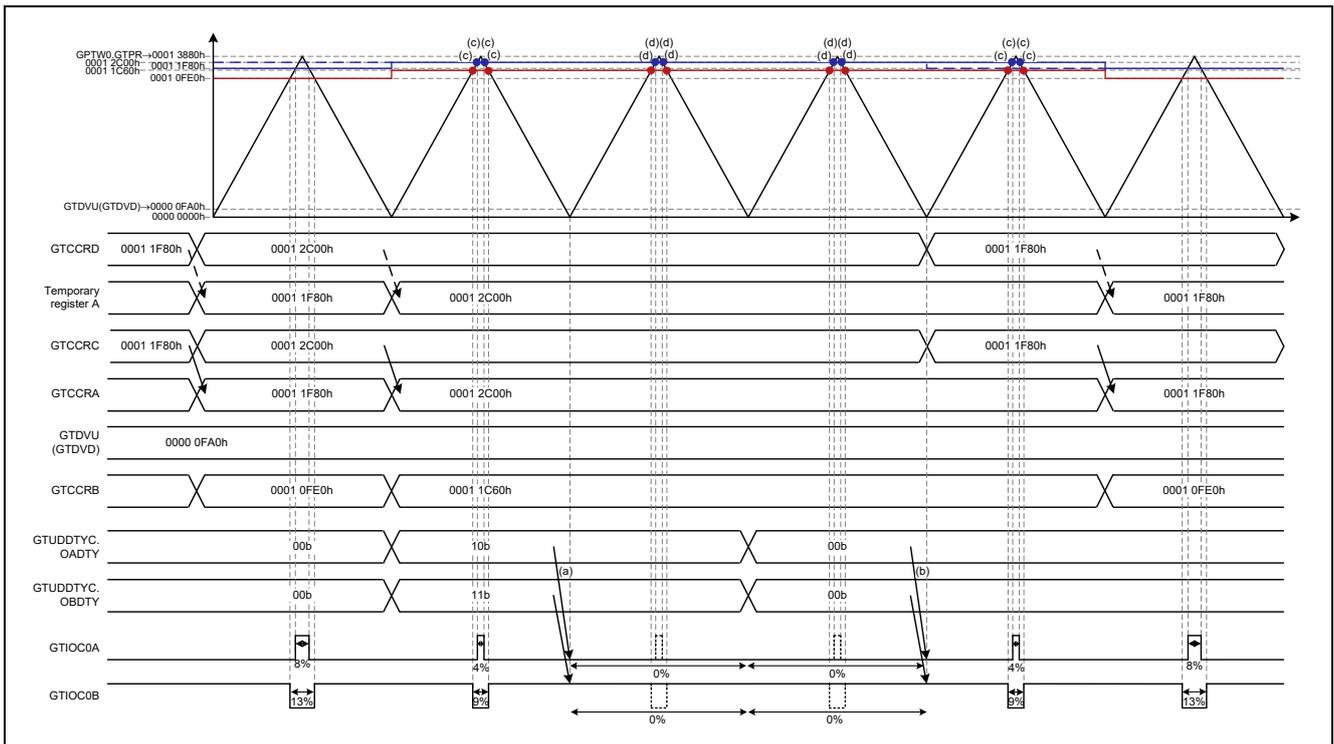
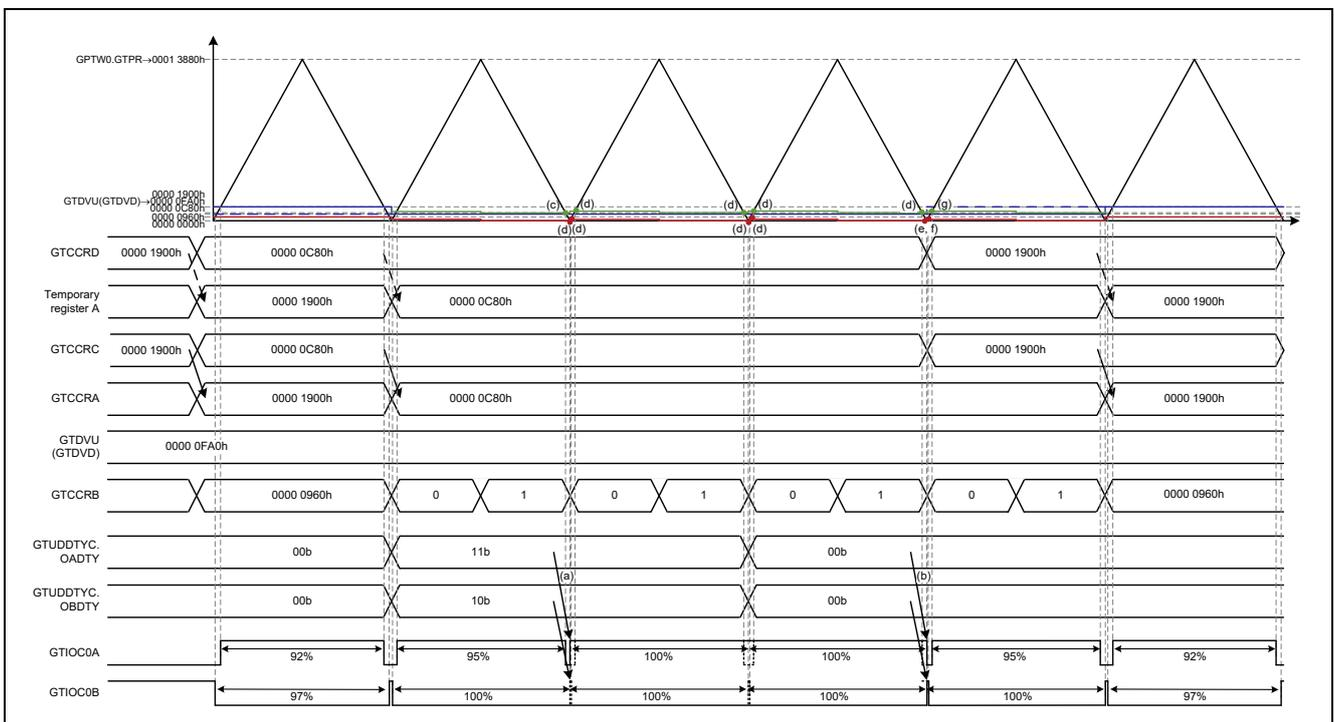

Figure 4.7 Sample Code Operation
Figure 4.8 Sample Code Operation
- Refer to Figure 4.7 and Figure 4.8 for duty cycle change timings.
The buffer register and GTUDDTYC register are overwritten at the underflow (trough) in triangle-wave PWM mode 3 (Figure 4.7).
The buffer register and GTUDDTYC register are overwritten at the underflow (trough) in triangle-wave PWM mode 3 (Figure 4.8).